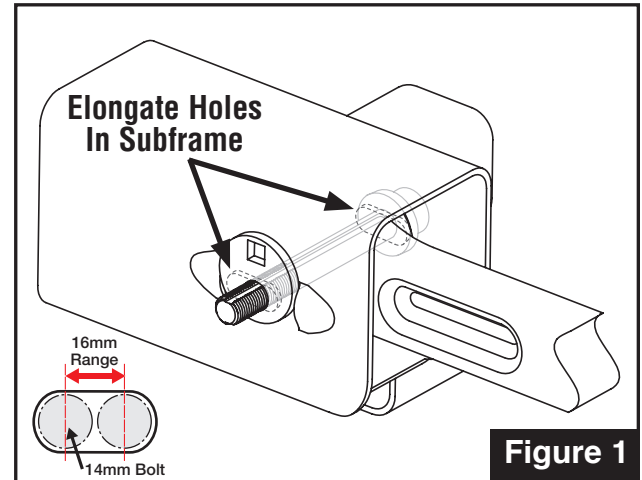

Figure 1
4. For increased camber adjustment, repeat step 3 on rearward arm's subframe bolt holes. (**Figure 1**)